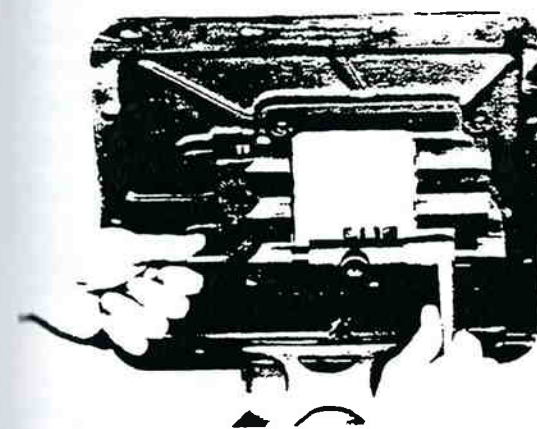

Figure 13-168. Installing 1st-Reverse Shift Bar.
2. Install the long 1st-reverse shift bar in lowest bore in housing, installing the shifting yoke and block on bar, long hub of each in the front (figure 13-168).